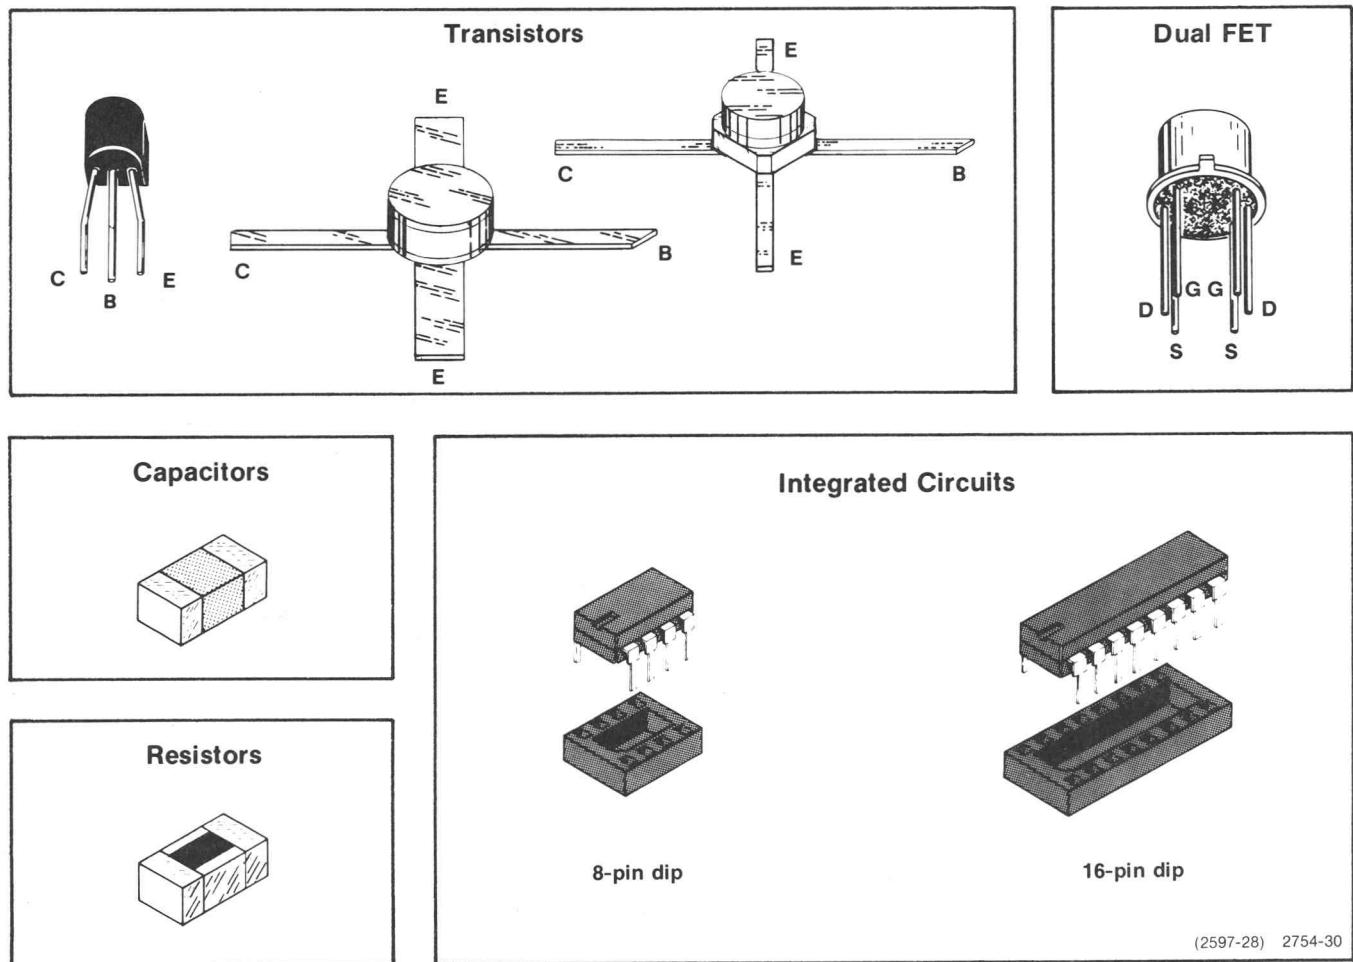

Fig. 5-4. Active component basing diagram.
Transistors. Lead identification for the transistors and ICs is shown in Fig. 5-4.
- d. Be sure the component is inserted properly in its socket (see Fig. 5-4 or the manufacturer's data sheet).